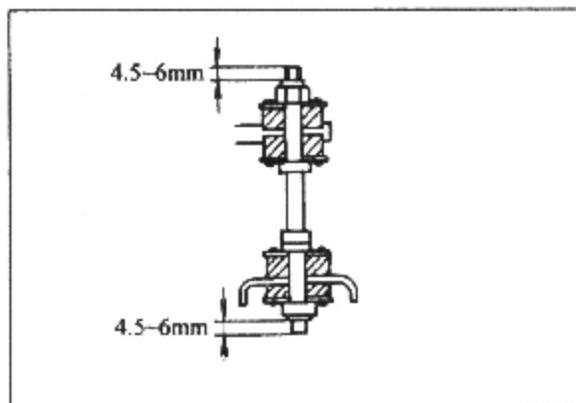

Figure 10-7-7 Installation of Stabilizer Bar
- ④ Check vehicle height. If the height is off standard, adjust it by using the adjusting nut of the torsion bar spring.
- ⑤ Check front wheel alignment by wheel alinger.
- ⑥ When to install the stabilizer bar, tighten the nut until the extended length of the bolt reaches 4.5~6mm, as shown in figure 10-7-7.